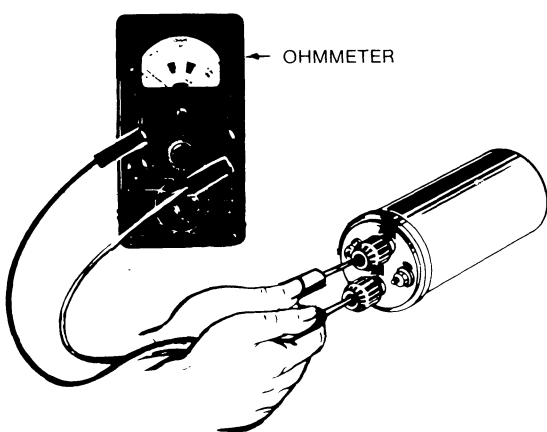

FIGURE 16. COIL TEST
3. Change resistance setting on ohmmeter. Place ohmmeter leads inside of spark plug cable holes (Figure 16). Secondary resistance should read 12,600 - 15,400 ohms.